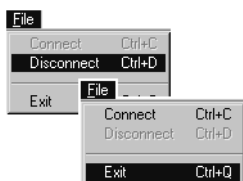

Figure 2-33. Click Disconnect then Exit
- Click **File->Disconnect** (Figure 2-33), then click **File->Exit** to quit the program. Continue with other configuration or operation functions as needed.